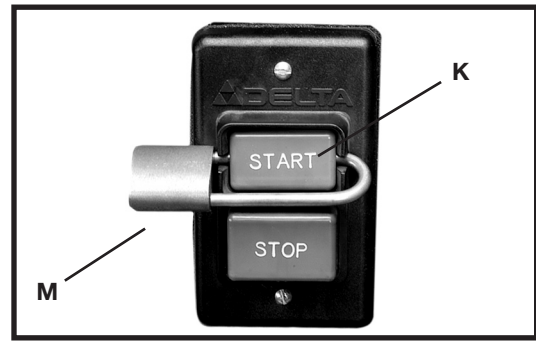

Fig. 18
CAUTION When the machine is not in use, the switch should be locked in the "OFF" position to prevent unauthorized use, using a padlock (M) Fig. 18 with a 3/16" diameter shackle